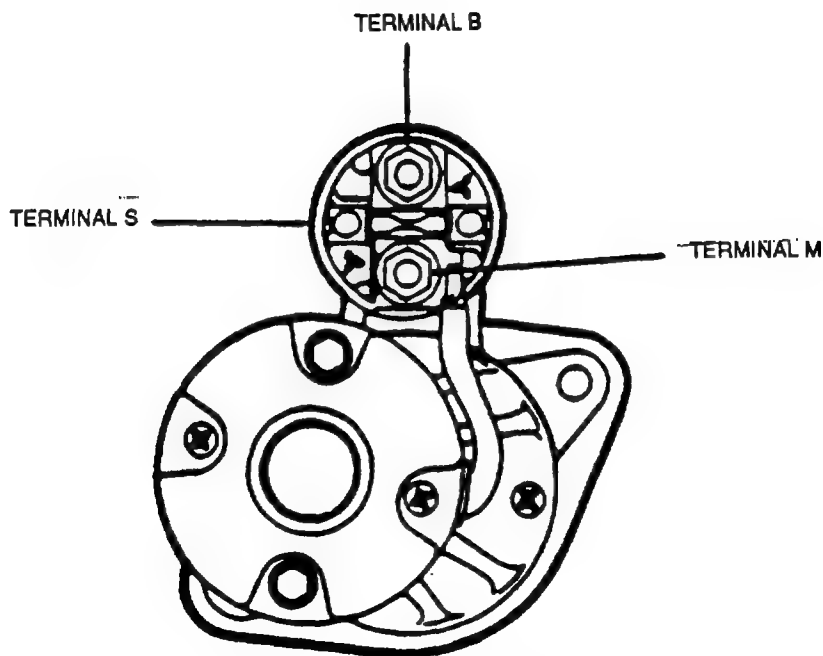

FIGURE 3-24. Solenoid Terminals
- (1) Check for continuity between solenoid terminals M and B with a multimeter, refer to **FIGURE 3-24**.
- (2) No continuity should be indicated when solenoid plunger is in normal (out) position.
- (3) Push solenoid plunger in and observe multimeter. Multimeter should indicate continuity. If no continuity is indicated, solenoid must be replaced.